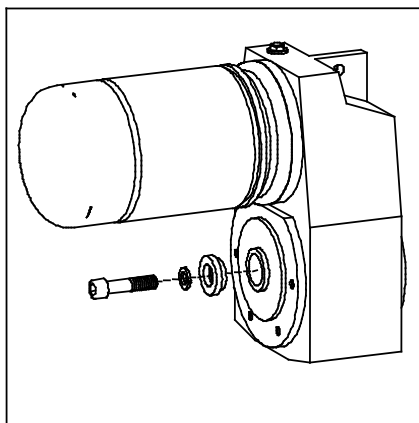

Figure 5.4a - Remove the Locking Bolt, Spring Washer and Stepped Spacer
3. Unscrew the locking bolt, spring washer and stepped spacer from the drive shaft, located at the rear of the gearbox (see fig. 5.4a).